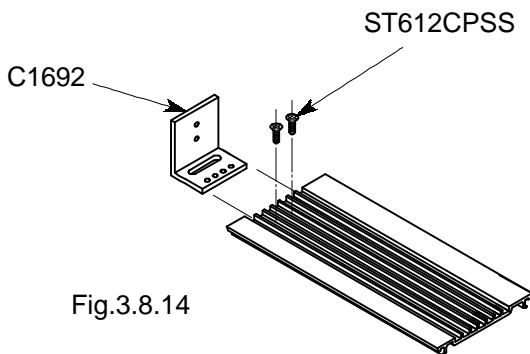

Fig.3.8.14
- Fix the support brackets (C1692) to the track using the No.6 x 1/2" C'sk Hd Pozi flat end screws (ST612CPSS). Fig.3.8.14